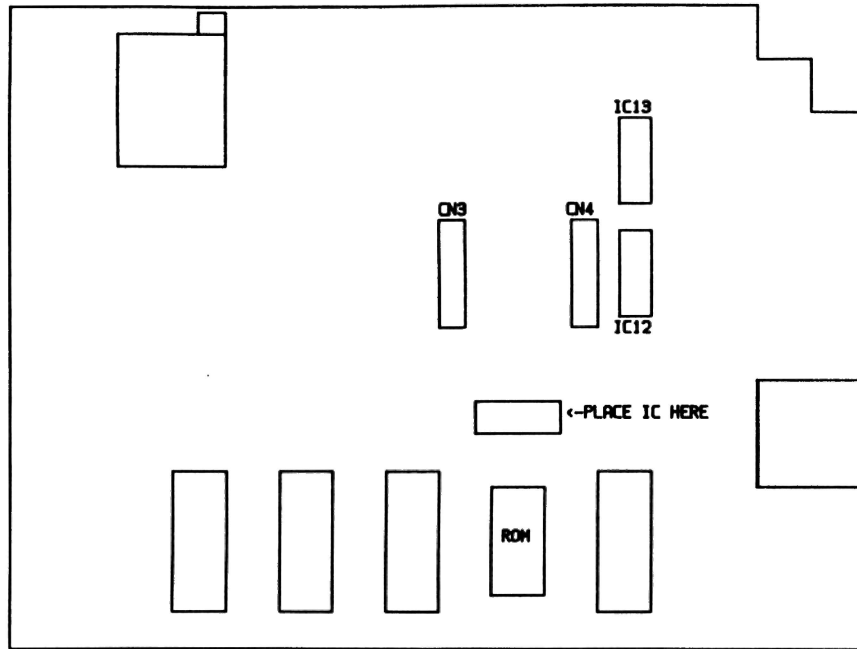

Figure 1
3. Using silicone rubber sealer (Radio Shack number 64-2314), mount the removed IC upside down on the clear portion of the board between the ROM (IC8) and connectors CN3 and CN4 (see figure 1). Use a small amount of the sealer to hold the jumper wires to the PC board so they out of the way of the RAM PCB. Allow at least 1 hour for the sealer to harden.